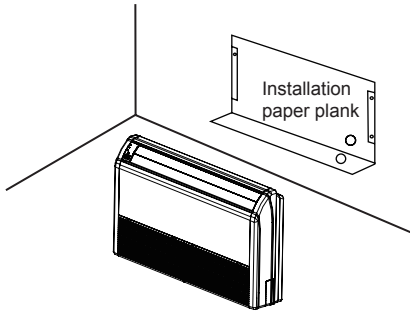

Fig.2
- (1). Determine the mounting position on ceiling or wall by using paper pattern to indicate indoor frame. Mark the pattern and pull out the paper pattern.(Refer to Fig.2)
- (2). Remove the return grill, the side panel and the hanger bracket from the indoor unit as per procedure below.